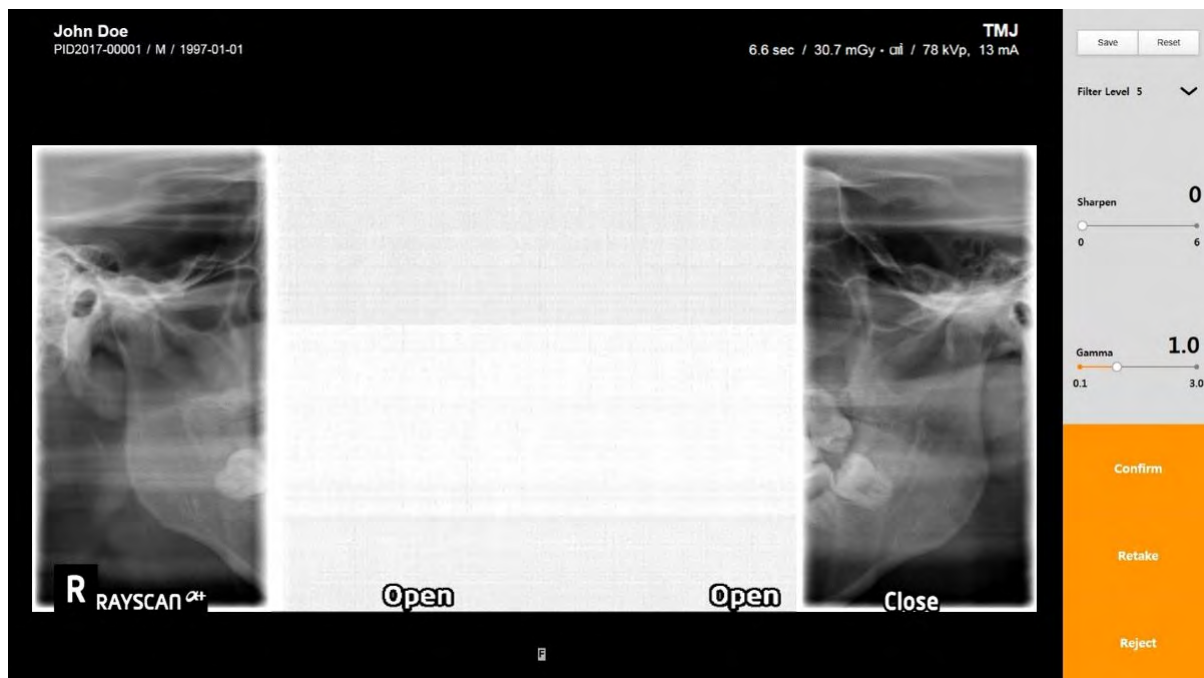
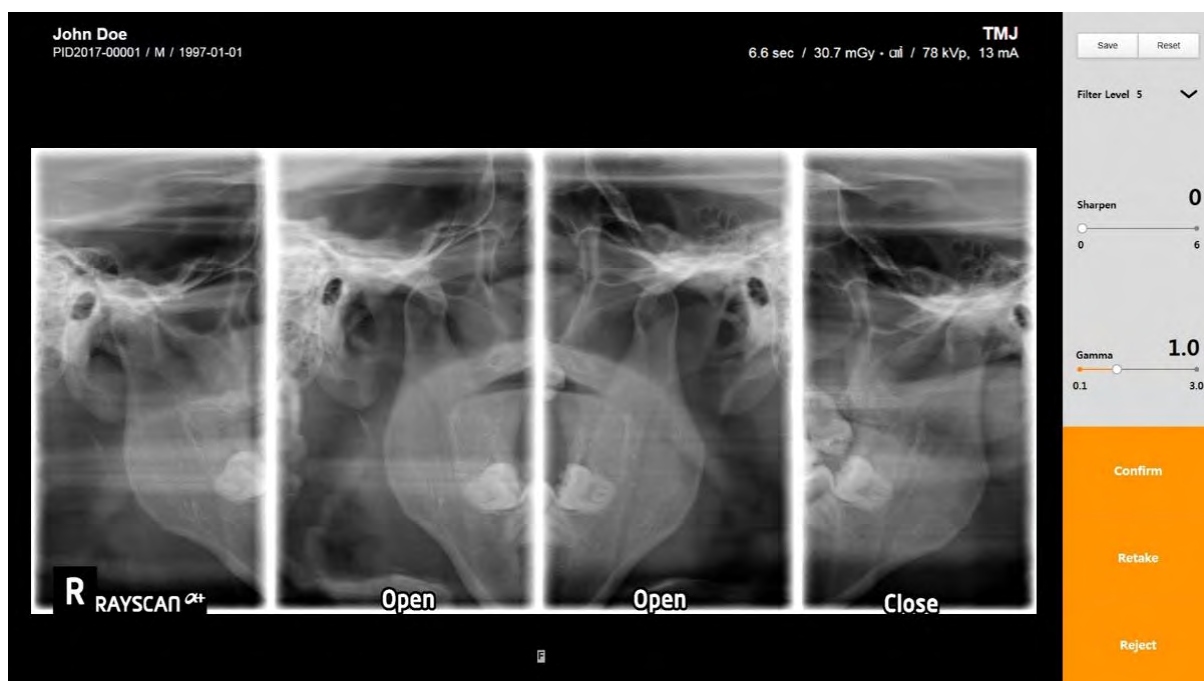

Fig 14 TMJ 2-View
Fig 15 TMJ 4-View
On 4-View option, scan 2 times continuously and the results are in 1 image view as 'Fig 15'.
**2-View scan:** On TMJ Select screen (Fig 13), select either Open or Close to scan and the result image is displayed as 'Fig 14'.
**4-View scan:** On TMJ Select screen (Fig 13), select 4-View option and scan Close images first. As soon as the scan is finished, the result image pops-up (Fig 14). Click [Confirm] to scan Open images as following. After all the scans, the final image is displayed in 1 image view 'Fig 15'.